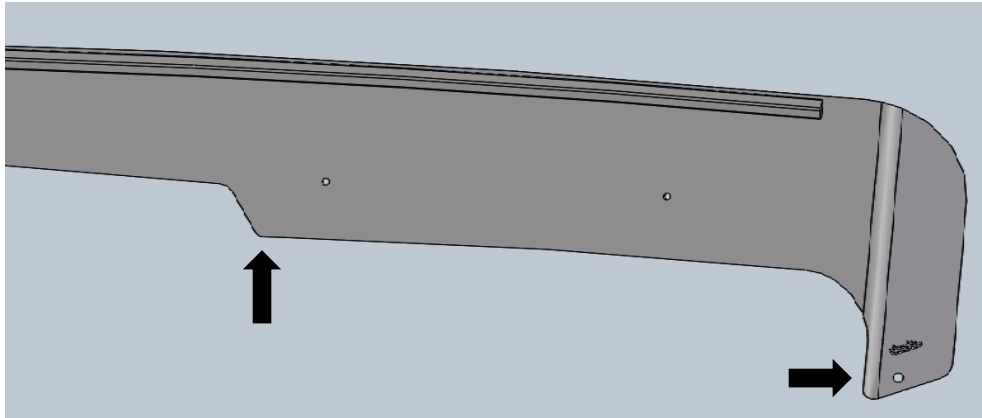

Figure 1: Installation of Rubber Edge Trim (Driver Side Shown)
2. Apply 2 pieces of rubber trim guard along the edge of the bug deflector between the arrows as shown in Figure 1.